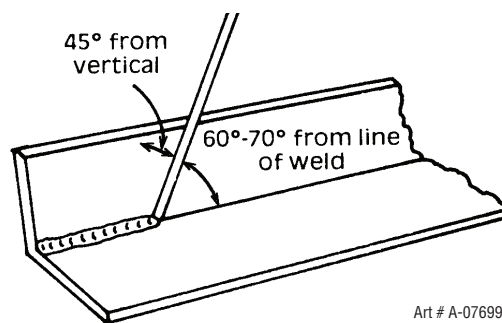
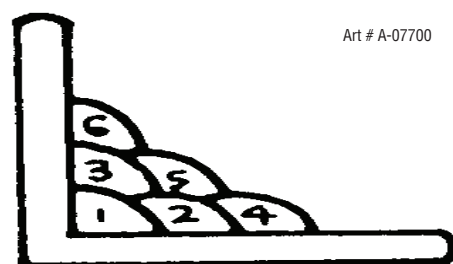

Figure 4-14: Electrode position for HV fillet weld
Figure 4-15: Multi-runs in HV fillet weld
A piece of angle iron is a suitable specimen with which to begin, or two lengths of strip steel may be tacked together at right angles. Using a 1/8" (3.2mm) E7014 electrode at 120 amps, position angle iron with one leg horizontal and the other vertical. This is known as a horizontal-vertical (HV) fillet. Strike the arc and immediately bring the electrode to a position perpendicular to the line of the fillet and about 45° from the vertical. Some electrodes require to be sloped about 20° away from the perpendicular position to prevent slag from running ahead of the weld. Refer to Figure 4-14. Do not attempt to build up much larger than 1/4" (6.4mm) width with a 1/8" (3.2mm) electrode, otherwise the weld metal tends to sag towards the base, and undercut forms on the vertical leg. Multi-runs can be made as shown in Figure 4-15. Weaving in HV fillet welds is undesirable.